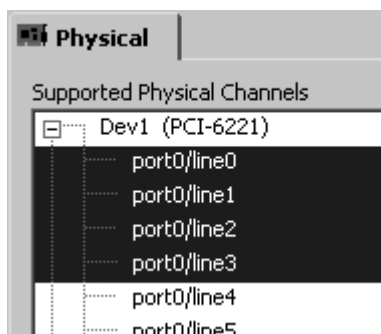

Figure 11.20
4. Select your DAQ device and channels “port0/line0” through “port0/line3” (<Ctrl> or <Shift> click to select multiple channels), and then press the **Finish** button (see Figure 11.20).